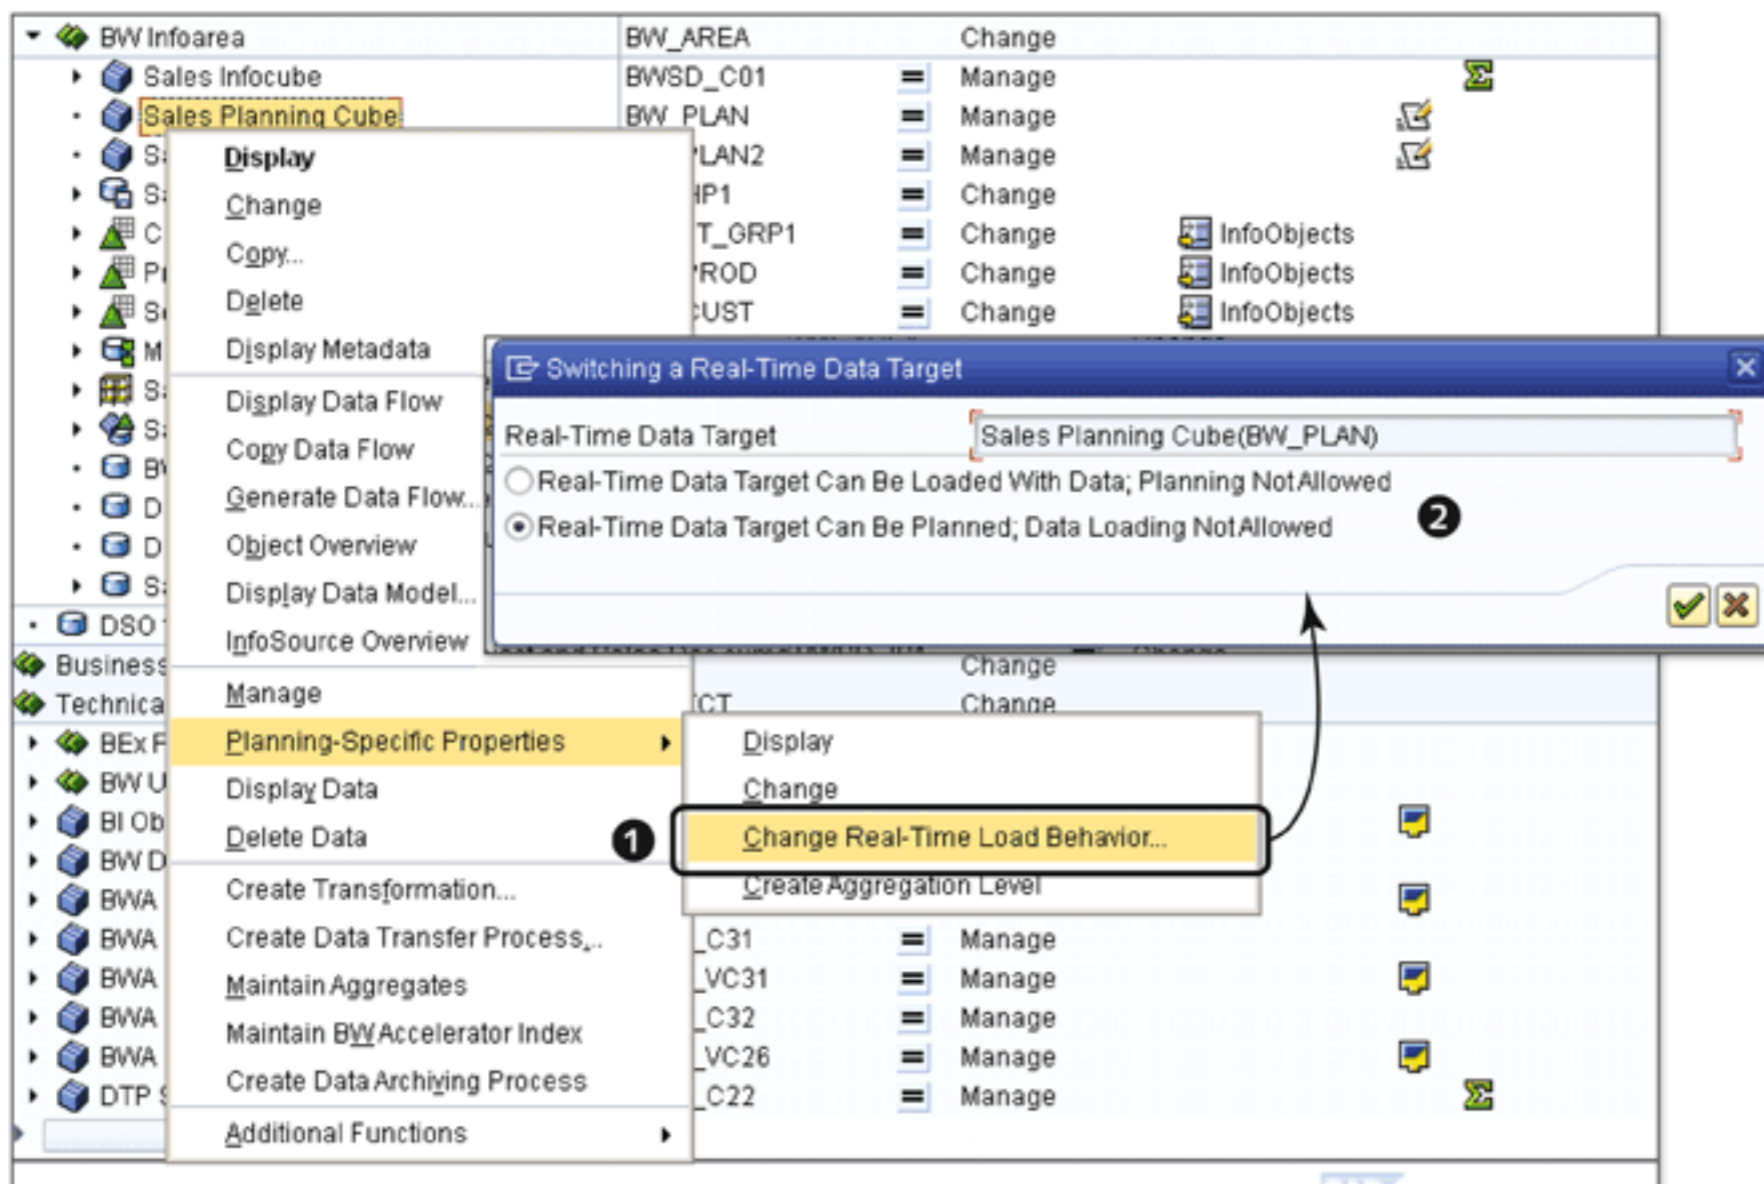

Figure 12.8 Changing Real-Time Load Behavior
In the DWW (Transaction RSA1), you can see the option **PLANNING-SPECIFIC PROPERTIES • CHANGE REAL-TIME LOAD BEHAVIOR** in the context menu of the real-time InfoCube (1 of Figure 12.8). Selecting this option displays a pop-up screen where you can set the real-time load behavior of the InfoCube (2).